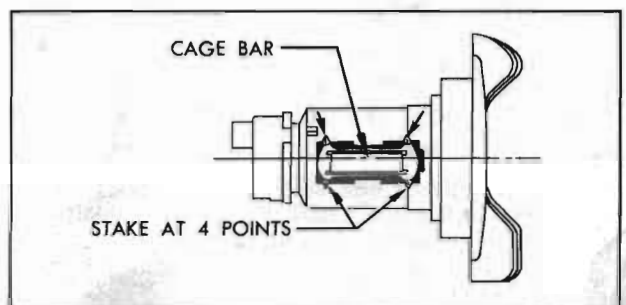

Figure 10-80—Cage Bar Staked in Place
3. Stake cage bar in place as shown in figure 10-80. *Staking must not distort cage.* Reinstall lock cylinder and check operation with key. If operation is satisfactory, plug the drilled hole with a small pin No. 00 x $\frac{1}{8}$ " (Parker Kalon type "U").